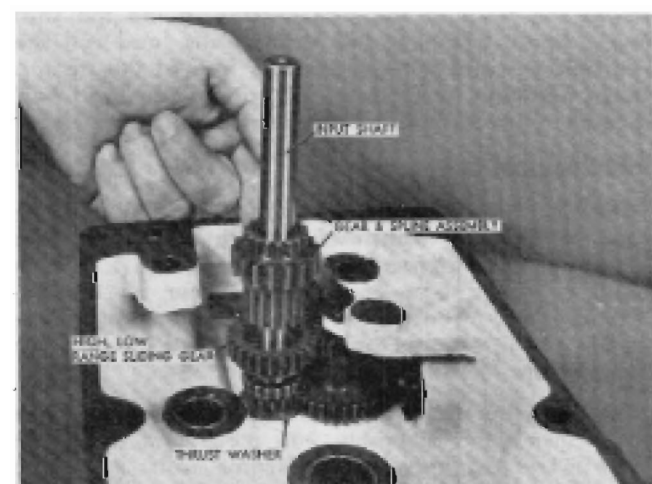

FIGURE 5
19. Remove the gear and spline assembly from the input shaft. Figure 5.
20. Remove the input shaft. Figure 5.